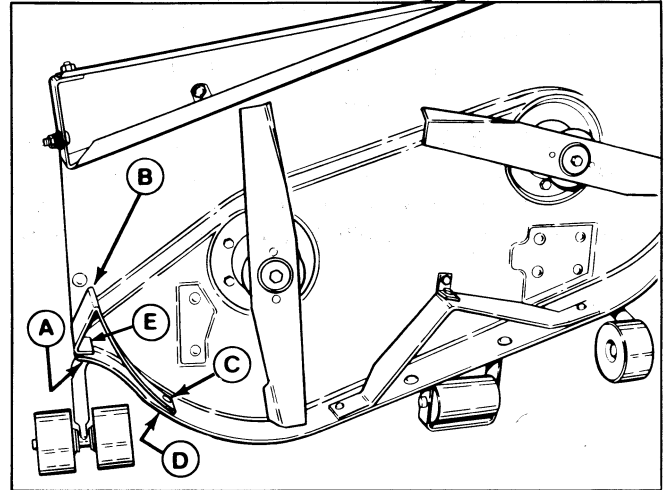

Figure 4.
5. Install the baffle (B, figure 4) as shown. Install retainer nut (E) in baffle, then screw the 1/4" whizlock screw (A) into retainer nut. Insert 1/4" carriage bolt (C) from inside deck and install lockwasher and nut (D).